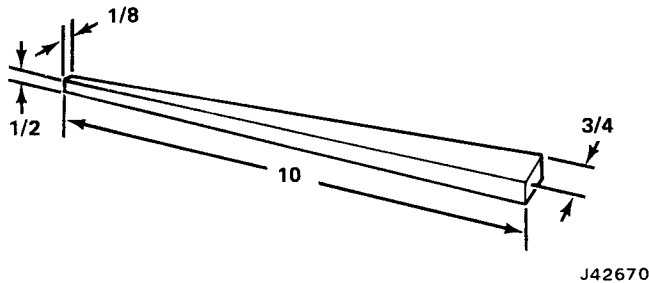
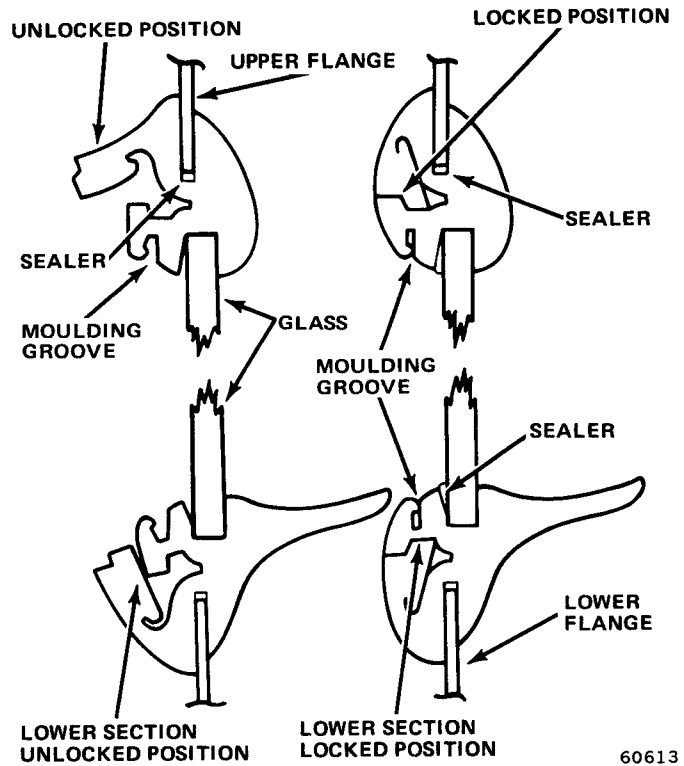
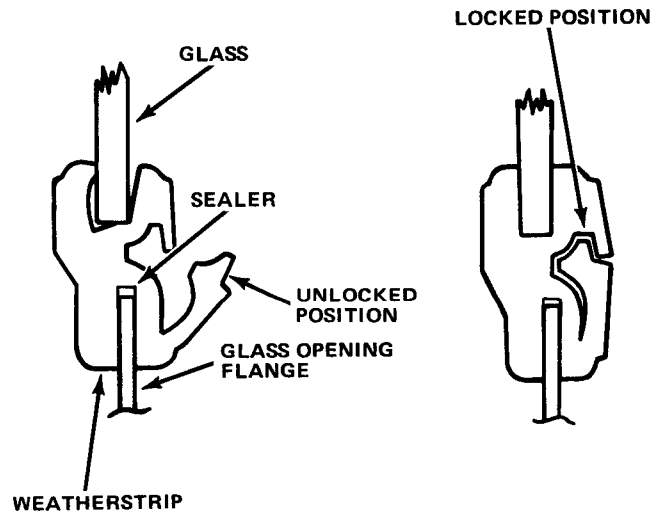

Fig. 17-1 Wooden Wand Dimensions (Inches)
Fig. 17-2 Windshield Weatherstrip Cross Section—Moulding Removed
Fig. 17-3 Windshield Weatherstrip Cross Section
- (1) Cover adjoining painted surfaces to protect finish.
- (2) Remove windshield wiper arms using a wide blade screwdriver.
- (3) On vehicles with stainless steel mouldings.
- (4) Slide center moulding clip to left or right and remove bottom mouldings. This will expose the locking type weatherstrip.
- (5) Use a wedge-shaped fiber or hardwood stick or wand as shown in figure 17-1 to unlock the weatherstrip as shown in figures 17-2 and 17-3. The locking type weatherstrip without mouldings is shown in figure 17-3.
- (1) Clean old sealer from windshield opening flange.
- (2) If removed weatherstrip is to be reused, be sure glass cavity and flange cavity are clean.
- (3) Use 3M Auto Bedding and Glazing Compound or equivalent and apply a 1/16-inch bead of sealer completely around weatherstrip in flange cavity as shown in figure 17-2.
- (4) Install weatherstrip on windshield opening flange.
- (5) Apply a liberal amount of liquid soap solution in glass cavity of the weatherstrip.
- (6) With two men working on the outside of the vehicle, work windshield into upper glass cavity and into each side. Position wooden wand under bottom of glass and lift windshield up and into lower glass cavity. Check for equal side clearances.
- (7) Use wooden wand to lock weatherstrip as shown in locked position (fig. 17-2 and 17-3).
- (8) Use 3M Windshield Sealer or equivalent and apply sealer between the weatherstrip and glass on outside of glass around entire perimeter (fig. 17-2).